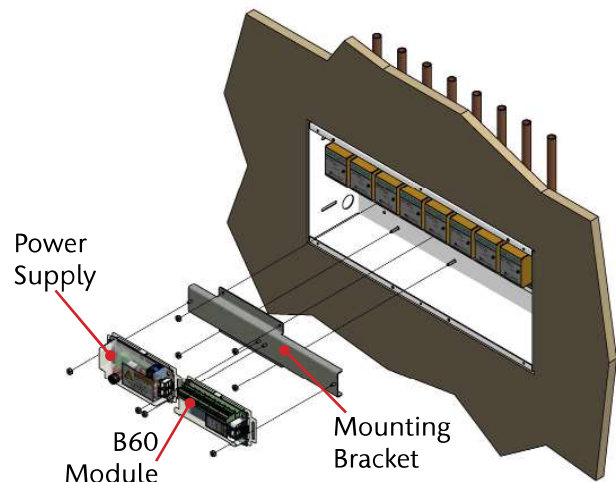

Figure 213: Power Supply, Module Mounting
- a. Install the 2 position metal standoff bracket that is included with the additional trim kit onto the studs the power supply was removed from (Figure 213).